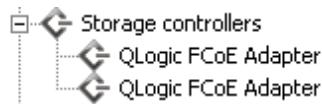

Figure 3-26. Typical QLogic 8100 Series Adapter Port Entry
- a. Click **Storage controllers** (for FCoE drivers). Find each port of the QLogic adapter FCoE function that is listed as QLogic FCoE Adapter under this section. Figure 3-26 shows typical entries for a dual-port QLogic 8100 Series Adapter.